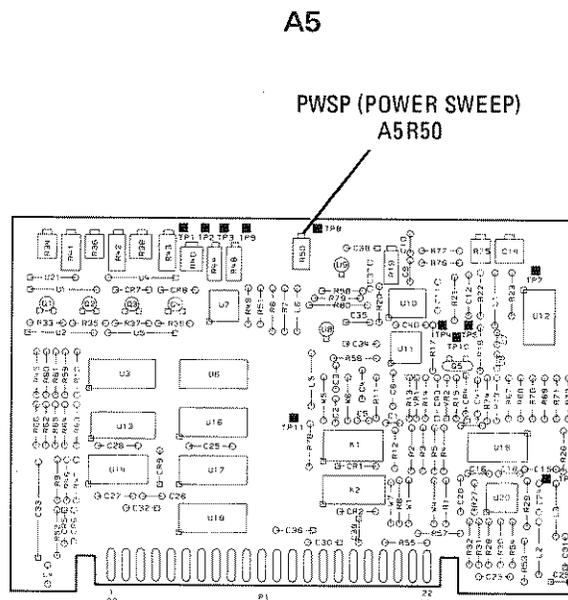

Figure 5-38. Power Sweep Adjustment Location
5. While observing the 8755C display of the RF output, adjust A5R50 (PWSP) for a power level change of 10 dB across the display (10 dB/sweep). Refer to Figure 5-38 for the adjustment location.